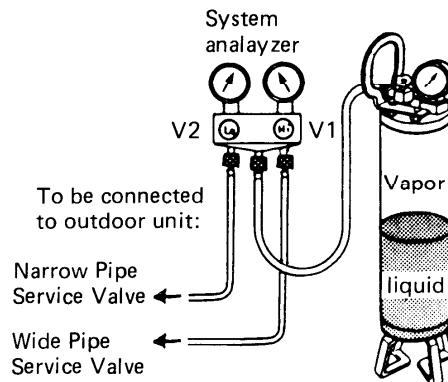

Fig. D-16
- 2) Prepare the system analyzer valve set and connect charging hoses as in Fig. D-16. Be sure to close all valves before connection.